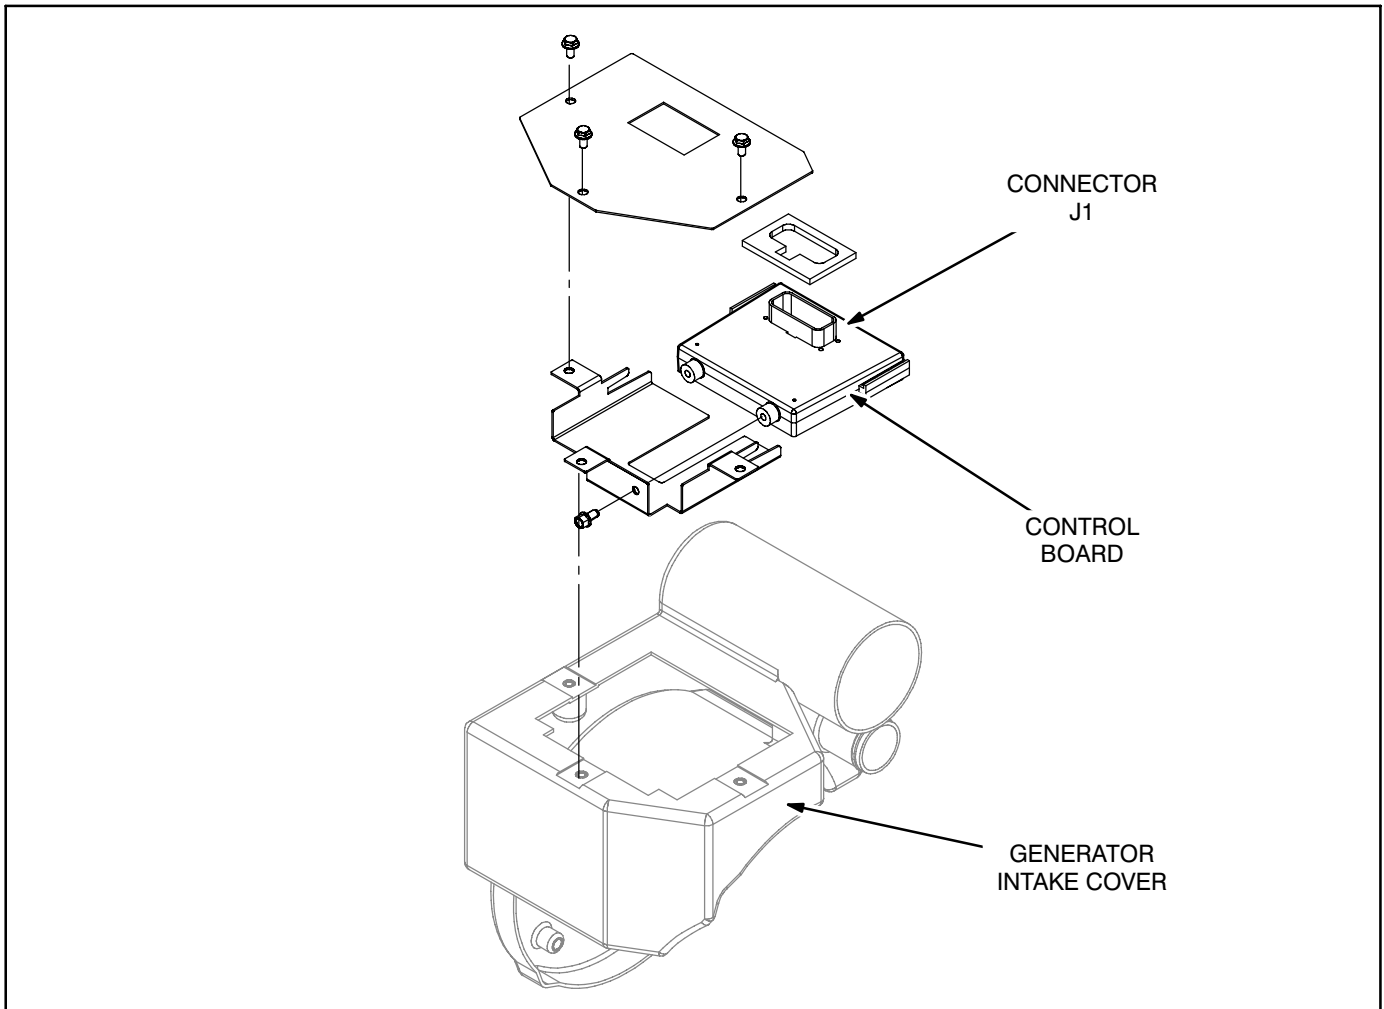

FIGURE. 11-1 CONTROL BOARD
**Location and Mounting:** Refer to Figure 11-1 for control board location and mounting and to Pages A-1 and A-2 for the control wiring schematic